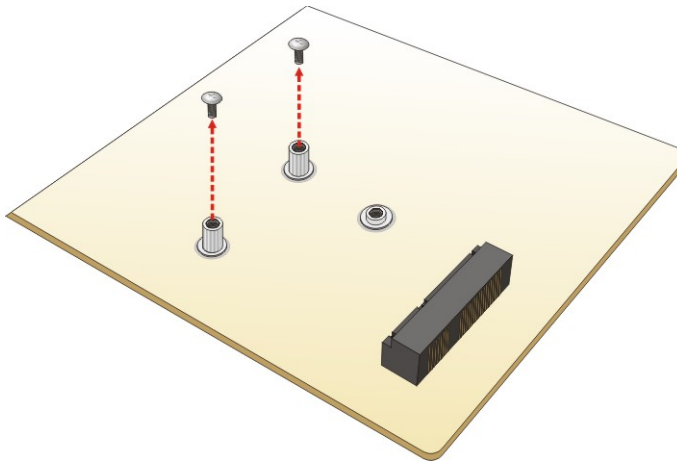

Figure 3-7: Removing the Retention Screws
Step 3: Remove the two retention screws as shown in Figure 3-7.